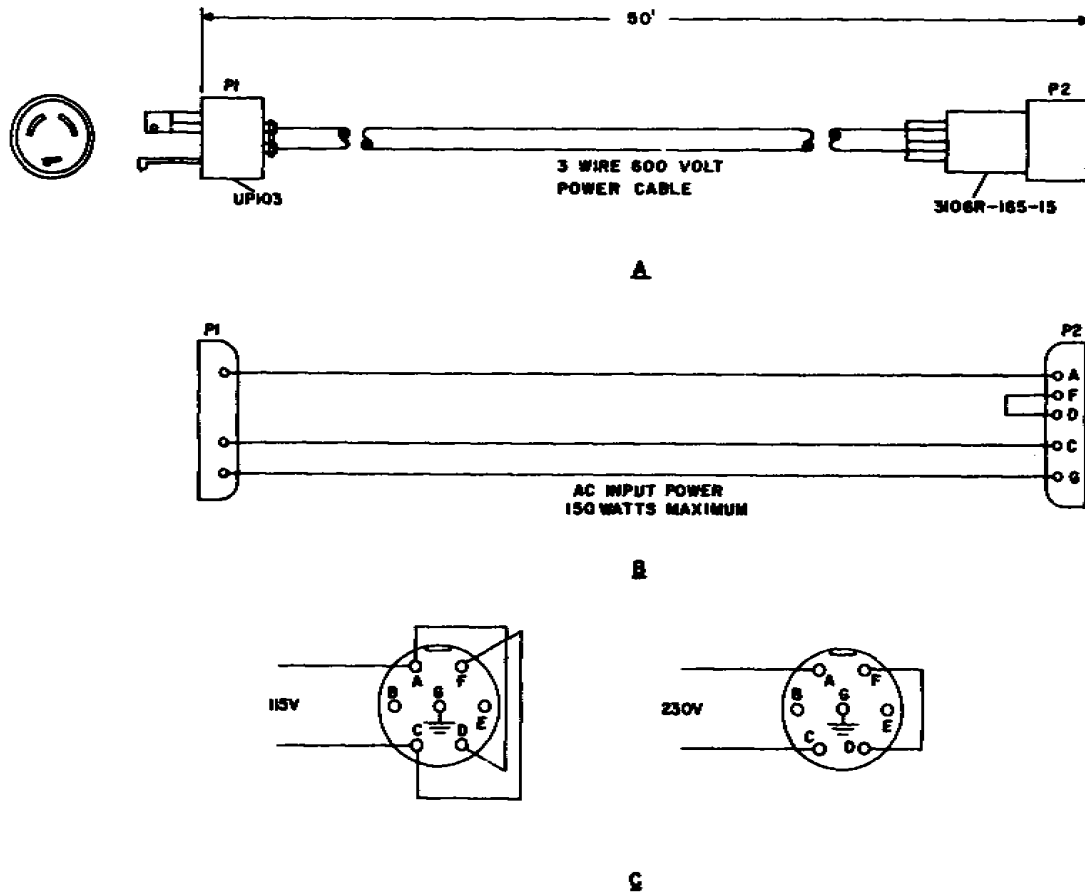

Figure 2-10. 230 Volt Power Cable, Fabrication Diagram
(1) 230-VOLT POWER CABLE. - Power transformer T1 of Power Supply PP-3700/PRC-41 has a split primary. Terminals 1 and 2 of transformer T1 are connected to pins A and F of power connector J1. Terminals 3 and 4 of transformer T1 are connected respectively to pins D and C of connector J1. The connector of Power Electric Cable Assembly CX-8687/PRC-41 which mates with power connector J1 of Power Supply PP-3700/PRC-41 is wired for use with a 115-volt, 50- to 400-cps primary power source. Refer to figure 1-11. In event that only 230-volt, 50- 400-cps primary power is available, the a-c power cable described by figure 2-10 may be fabricated from bulk supplies. This cable differs from Power Electric Cable Assembly CX-8687/PRC-41 in that connector P1 is a three-prong. 230-volt, twist-lock plug and plug P2 is wired so as to connect the two primary sections of PP-3700/PRC-41 power transfer T1 in series.
(2) RADIO FREQUENCY COAXIAL CABLE. - Normally when it becomes necessary to connect an antenna to